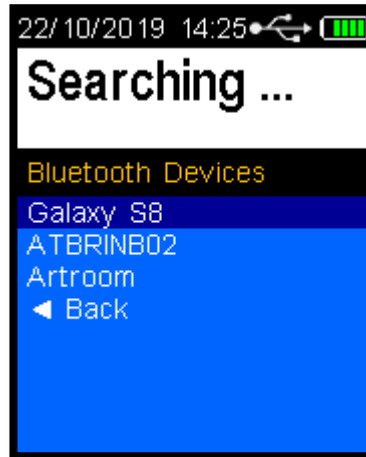

Figure 101 Serial Instrument Identified
- When the LE5 identifies the serial instrument, the instrument name will be displayed (Refer Figure 101).